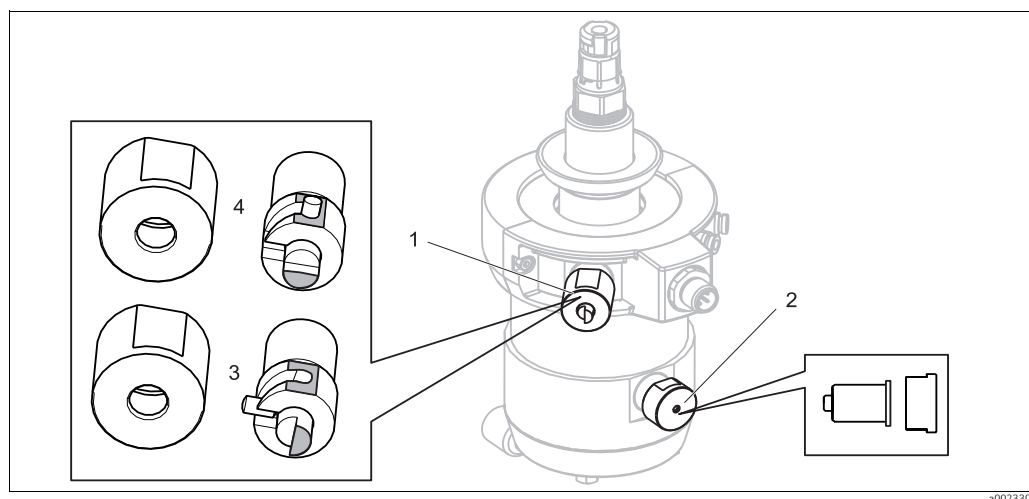

Fig. 22: Failure of compressed air supply
1. Unscrew both limit position locks (→ Fig. 22, pos. 1 and 2), and also remove the internal component. If the internal component is stuck (if an attempt was made to move the assembly without deactivating the limit position lock), move the assembly manually to the respective limit position.
3. Screw the limit position lock back in. (Only in the case of optional sterilization of the process seal: Re-install the lock in the normal position (pos. 3)).
2. Use the open-ended wrench to rotate the pin for the limit position lock (→ Fig. 22, pos. 1) from pos. 3 to pos. 4.
5. Use the open-ended wrench to rotate the pin for the limit position lock from pos. 4 to pos. 3.